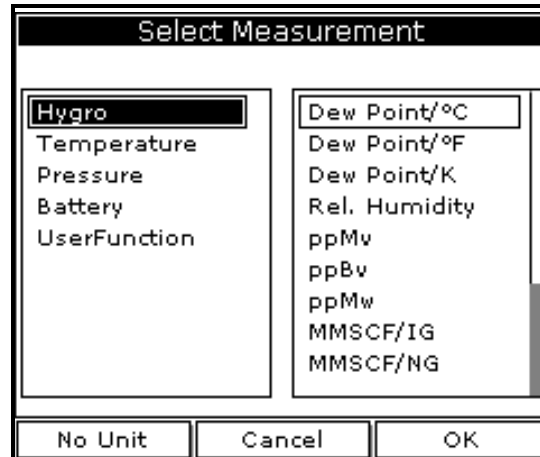

Figure 15: Select Measurement Window
2. Use the arrow keys to scroll to Measurement and press **[ENTER]**. The screen appears similar to Figure 15. The left column displays the five measurement types and the right column displays the measurement units.